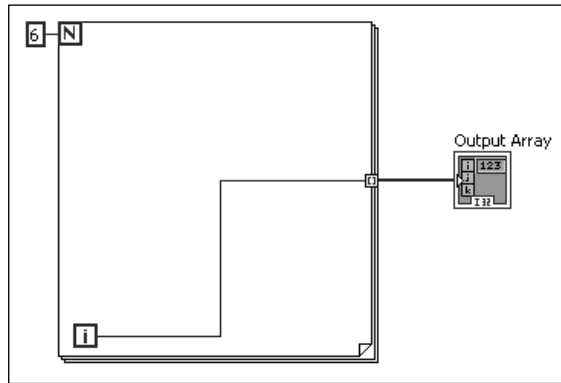

Figure 4.53
- When values are passed out of a loop through a tunnel (with indexing enabled), an array of values is created. The For Loop shown in Figure 4.53 cycles six times, and the index takes on values of 0–5. Those values are passed outside the loop